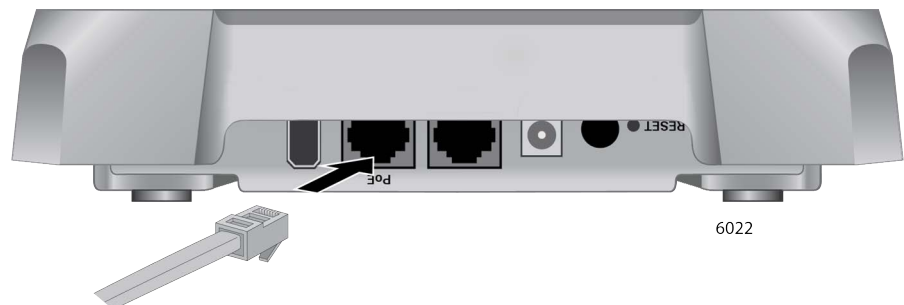

Figure 17. Connecting an Ethernet Cable to PORT (POE)
1. Connect an Ethernet cable into PORT (POE). The cable requirements are in “Cable Requirements” on page 17. Refer to Figure 17.